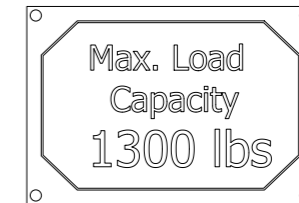

Fig. 7a MevaLite
Refer to the data plate for the maximum load capacity of each crane hook (Figures 7a to 7d).
- that the data plate is legible (Figures 7a to 7d)